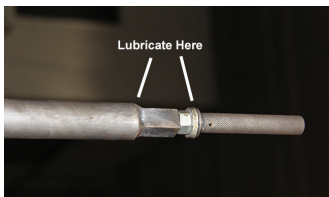

Figure 51
5.0.6) Add grease to the top of the insertion tool jam nut below the knurled handle (see Figure 51).
5.0.9) Add grease to the end of the insertion tool where the round shaft transitions to a chamfer (see Figure 51).